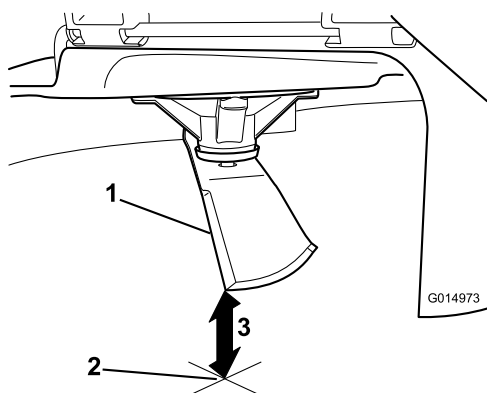

Figure 44
3. Measure from the tip of the blade to the flat surface (Figure 44).